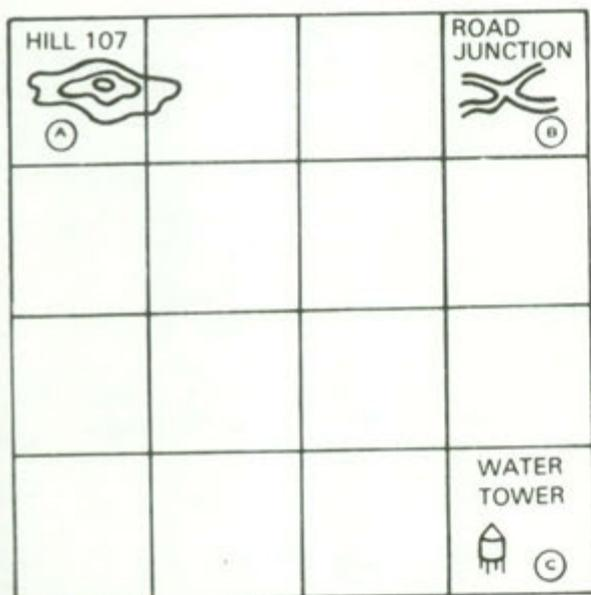

Figure 1a.
**STEP 2:** Locate two known positions on the ground and mark them on your map (figure 1a).